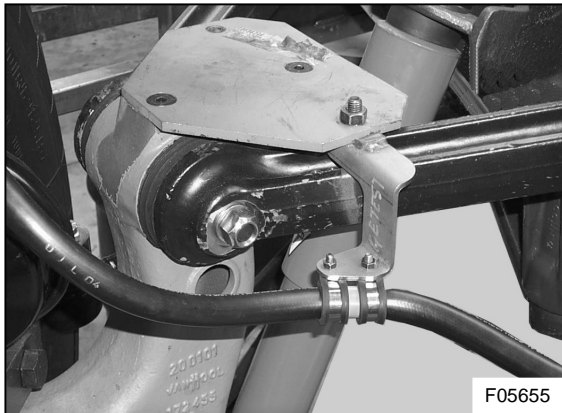

Figure 8: Right hand hose to steering knuckle mounting
- 4) Undo and remove the bolts securing the hose clamps to the hose to steering knuckle mounting bracket (see Figure 8). Remove the clamp(s) from the hose. Save the bolts for re-use and discard clamp(s) VH 637100190.
- 7) Undo and remove the bolt securing the right hand hose to steering knuckle mounting bracket to the angular air spring mounting plate. Discard the bracket and replace it by bracket VH 10631266 from the kit (installation shown in Figure 8). Run up the bolt and tighten to a torque of 45 to 60 ft.lbf (60 to 80 Nm).
- 6) Undo and remove the bolt securing the right hand hose to steering knuckle mounting bracket to the angular air spring mounting plate. Discard the bracket and replace it by bracket VH 10631266 from the kit (installation shown in Figure 8). Run up the bolt and tighten to a torque of 45 to 60 ft.lbf (60 to 80 Nm).